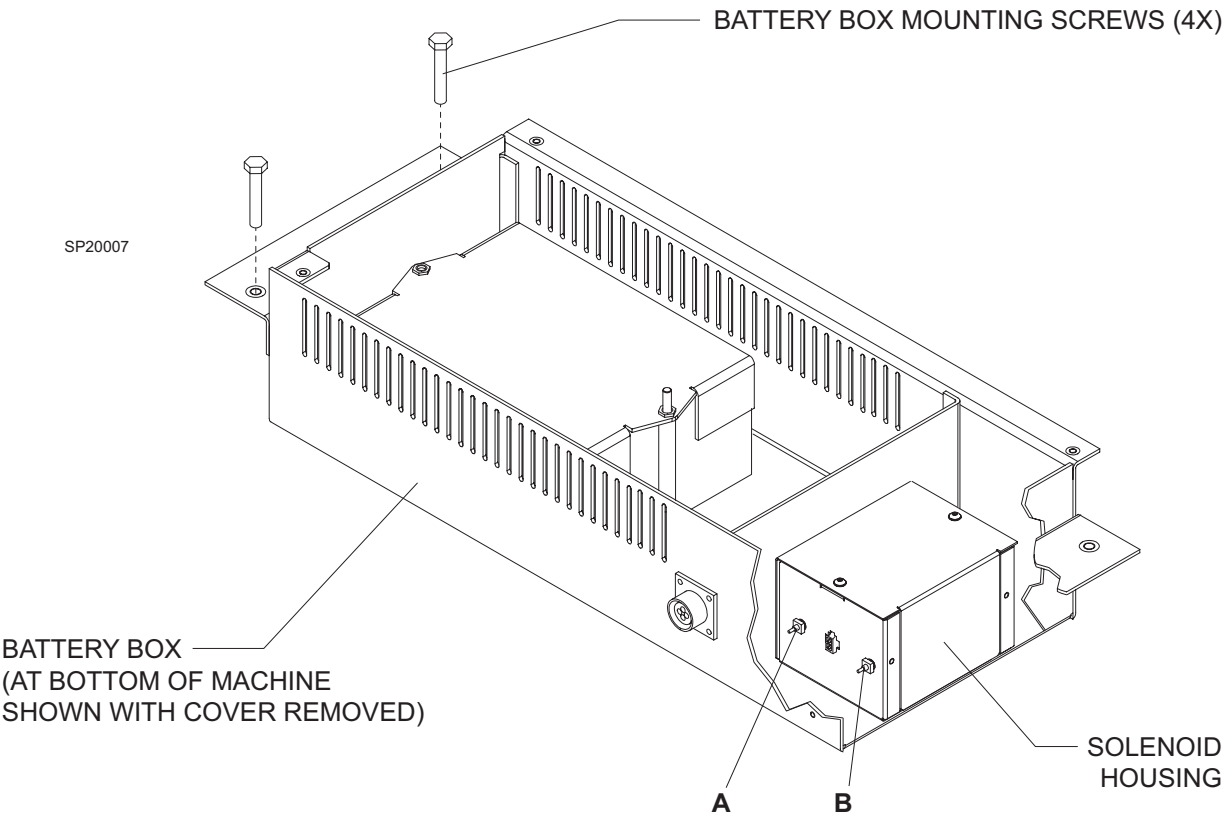

FIGURE 7. Solenoid Tubing Connections
29. Cut the two 1/8 in. flex tubes marked A&B close to the solenoid hose barbs in the battery box assembly. See Figure 7.
30. While supporting the bottom of the battery box and carefully remove the four hex bolts securing the battery box to the frame rails, and remove the battery box. See Figure 7.